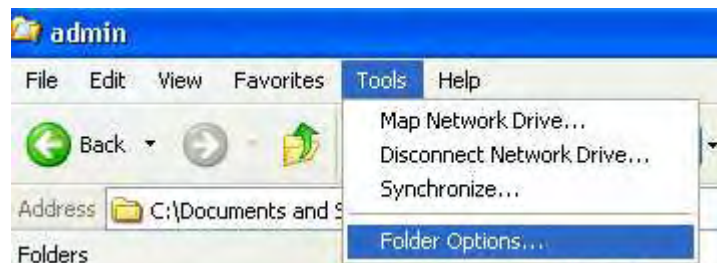

Figure 1-62. Menu - Tools - Folder Options
3. To save the selected view, select **Tools** from the menu bar. The "Tools" menu pops up (Figure 1-62).